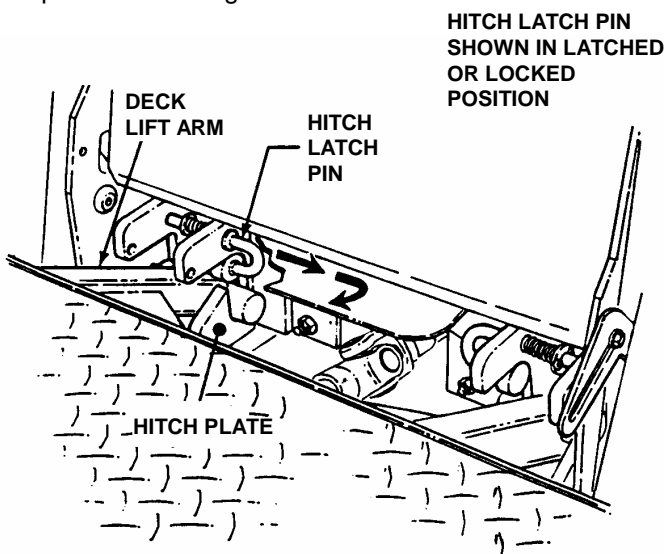

FIGURE 3.9
3. The hitch latch pins are shown in the latched position. The latched position locks the deck lift arm into position. See Figure 3.9.
5. Move deck lift switch as if to lower deck and the lift arm will move up in the hitch plates. The lift arm needs to be high enough to clear the hitch plates when power unit is driven backward away from mower deck. See Figure 3.9.